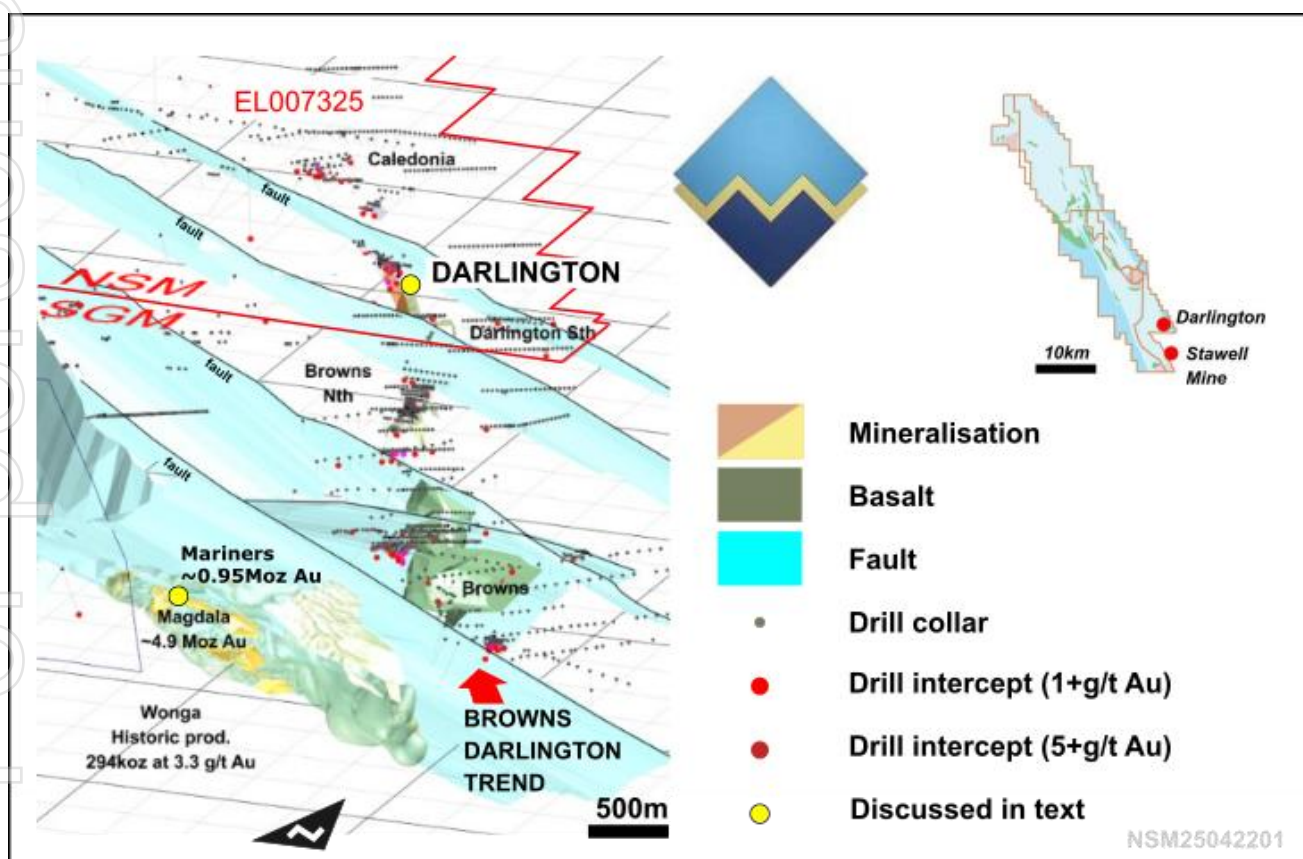

Figure 3 Regional geology, Darlington. Ortho-image looking down to the NNW along the Browns Trend.
The Darlington prospect lies in the highly gold-prospective corridor that runs from Stawell in the south, through Darlington, and is interpreted to continue to the north of Wildwood, 20 km to the north. Within the corridor, fault-disrupted blocks of basalt occur, and the margins of these basalts are the most likely areas to host a repeat (or repeats) of the multimillion-ounce mineralisation at Stawell (Figure 3). The southern section (from Stawell to Darlington) is termed the Browns Trend and includes semi-continuous (but faulted) basalt with demonstrated, shallow gold mineralisation (Figure 3) associated with basalt margins. The northern-most 2km of the Browns Trend is on NSM tenements (EL007325 (Appendix 1)).
The following characteristics of the high-grade gold intercept in NSD057 draw strong parallels to the historic Mariners Mines at Stawell (Figure 3, Figure 5):
The Mariners Mines are an interesting exploration model for follow-up strategies of the mineralisation in NSD057 (Figure 3, Figure 5). The historic Mariners mine(s) were the original focus of mining at Stawell and mined between 1856 and 1880. Multiple (30) historic shafts were sunk on the 1,100m trend to depths up to 500m and historic production records indicate that these mines produced at an average grade of